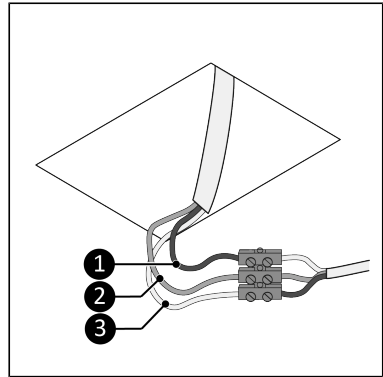

Figure 31.
- Brown wire: live (Figure 31, pos. 1);
- Yellow green wire: earth (Figure 31, pos. 2);
- Blue wire: neutral (Figure 31, pos. 3).